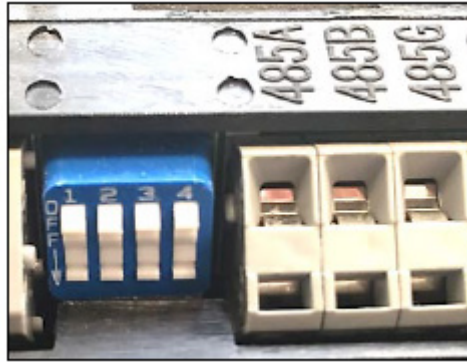

Figure 34. RS485 Termination/Biasing DIP Switches
13. Ensure the 4 dip switches S1 to S4 shown in **Figure 34** have the correct function as listed below.